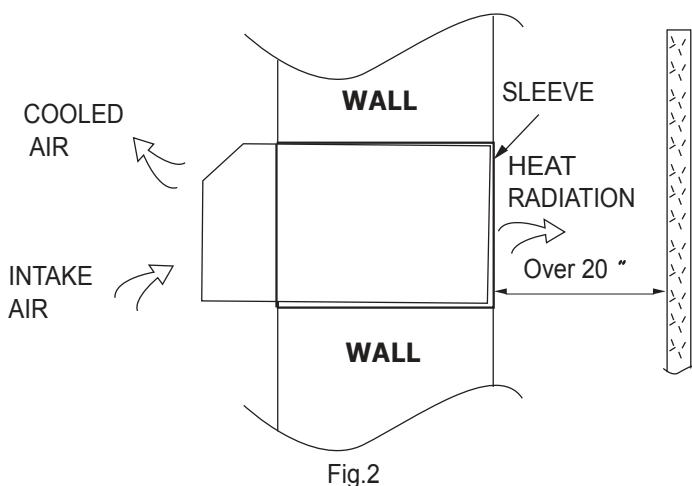

Fig.2
- When installing the sleeve, make certain there is nothing within 20" of the back that would interfere with heat radiation and exhaust air flow. (See Fig.2)